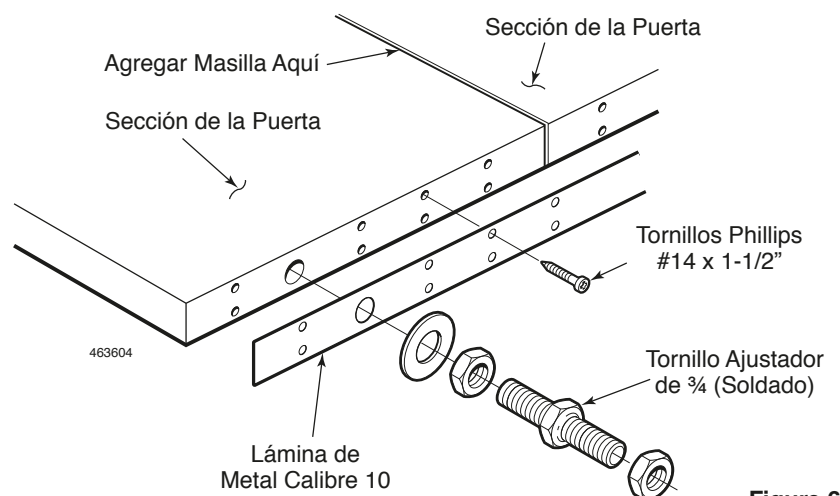

Figure 6
4. Remove the Adjuster Rod and Jam Nuts. Install the 10 gauge Metal Plate at the top and the bottom of the door. Anchor the strips with #8 x 1-1/2" Phillips pan head screws that have been provided. Reinstall the Adjuster Rod. See *Figure 6*.